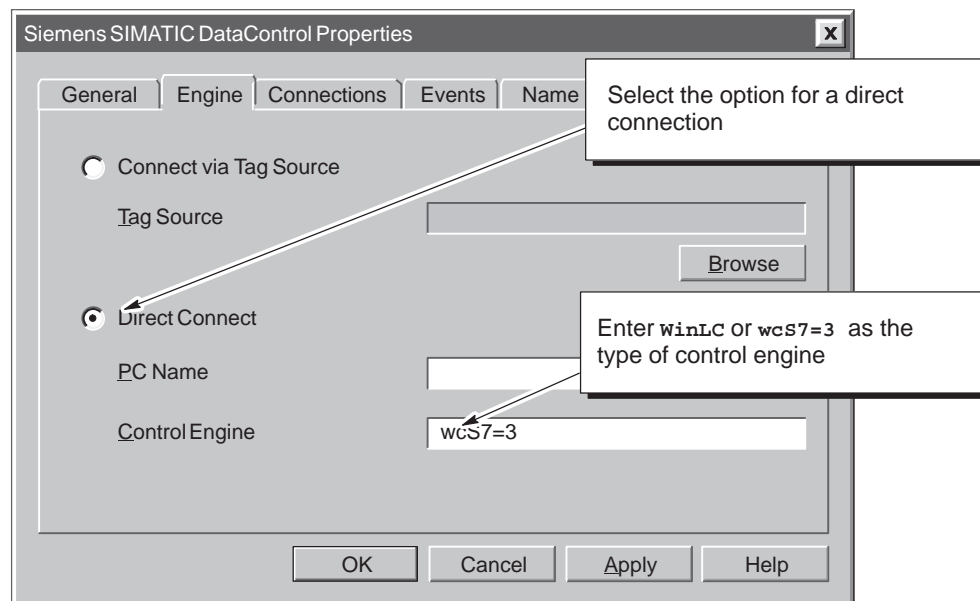

Figure 1-14 Connecting to the Control Engine (Label Control Example)
1. Select the “Engine” tab to configure the control engine. See Figure 1-14.